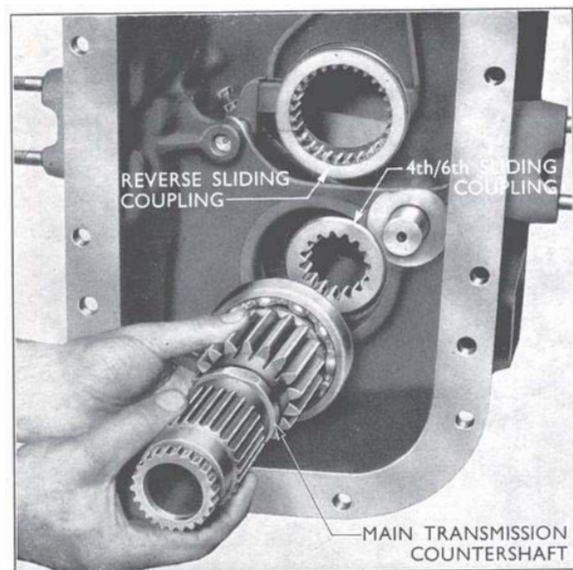

Fig. 27
3. Withdraw the main transmission countershaft and rear bearing assembly (see Fig. 27).